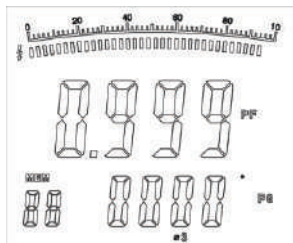

Figure 20
Then press **SEL** again to choose the third phase, see figure 20.
- Press **SEL** to choose the third phase, see figure 20.